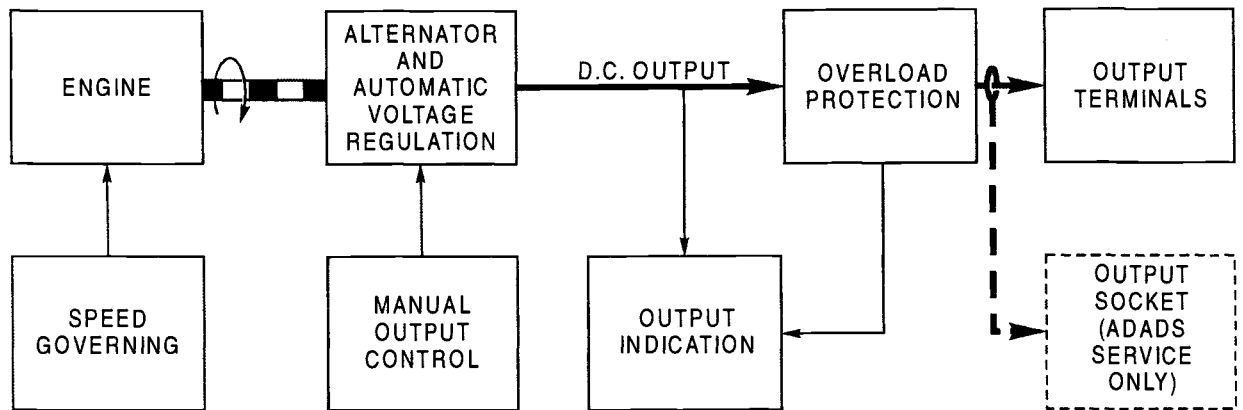

Fig 5 Generator set simplified block diagram
- 11 The main functional areas of the 14/28 V, 300/500 W generator set are shown in Fig 5.